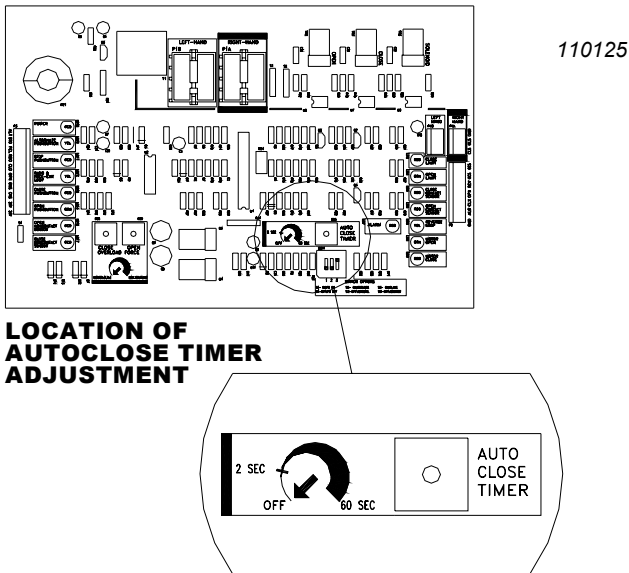

Figure 23: Location of Auto-Close Timer Adjustment
The Timer to Close is controlled by the setting of the “AUTO CLOSE TIMER” potentiometer on the control board, see Figure 23. When the pot is adjusted fully counter-clockwise the Timer-To-Close is disabled. Turning the pot approximately 1/4 turn clockwise will enable the Timer To Close function with a delay of approximately 2 seconds between the gate reaching the full open position and automatically closing. To increase the time delay continue to turn the pot in the clockwise direction to a maximum delay of 60 seconds (one minute).
2. If the TIMER TO CLOSE option has been selected, the timer will activate the gate to close within a maximum of 60 seconds depending on the setting of the TIMER TO CLOSE potentiometer (See Figure 23, Page 20).
To alter the amount of time that the close timer will hold the gate open, adjust the timer potentiometer located on the Control Board. See Figure 23, page 20.